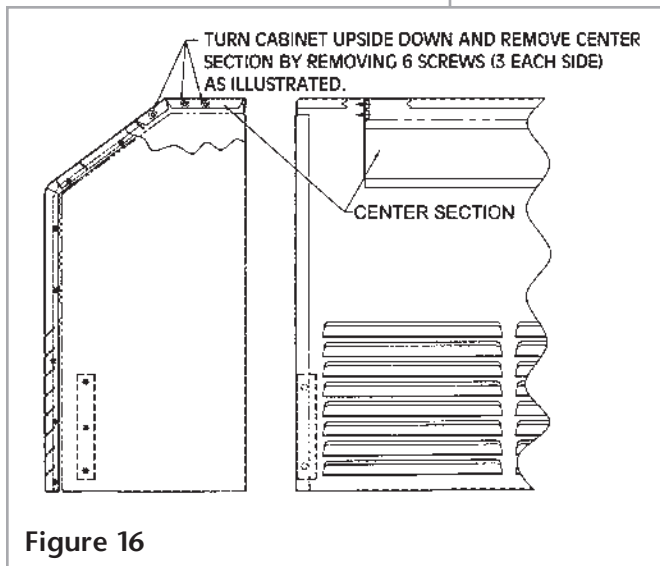
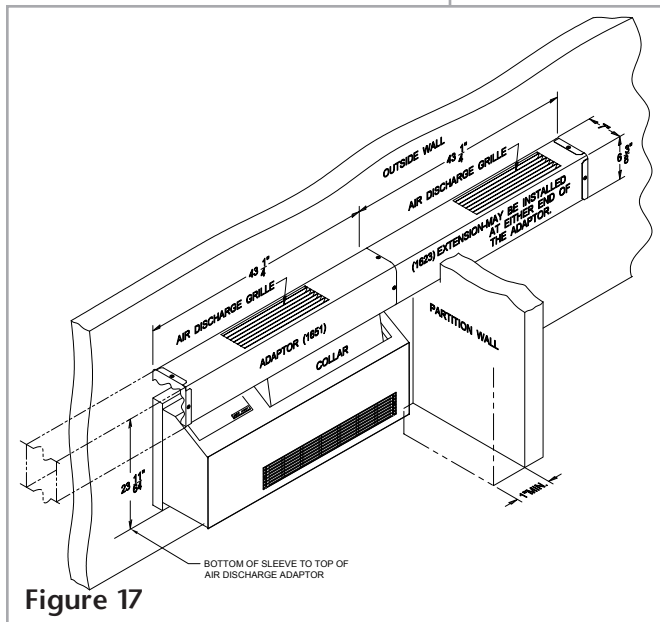

Figure 16
Figure 17
2. Slide collar into position under the adaptor and secure with the two (2) screws provided. (See **Figure 17**.)
3. If the required air flow direction is to the left, remove the end cap and three (3) tinnermans from the left end of the adaptor. Reinstall end cap and tinnermans to the right end of the adaptor.
4. Remove the center section from the cabinet front assembly. (See **Figure 16**.) **If the center section is not removed, you will be unable to open the cabinet front once the collar and adaptor are installed. Discard center section.**
5. Remove the discharge air grille from the unit. **Retain the two (2) screws.**
8. Remove adaptor and collar assembly from unit. At the two (2) locations marked on the adaptor in Step #7, drill a 7/64"-diameter hole (2 places).
9. Install adaptor and collar assembly on unit as illustrated and secure with the two (2) screws retained in **Step #5**. Also, secure the adaptor to the adaptor brackets with the screws provided.
3. Slide collar into position under the adaptor and secure with the two screws provided. (See **Figure 17**.)
5. Remove the center section from the cabinet front assembly. (See **Figure 16**.) **If the center section is not removed, you will be unable to open the cabinet front once the collar and adaptor are installed. Discard center section.**
6. Remove the discharge grille from the unit. **Retain the two (2) screws.**
10. Install adaptor and collar assembly on unit as illustrated and secure with the two (2) screws retained in **Step #6**. Also, secure the adaptor to the adaptor brackets with the screws provided.